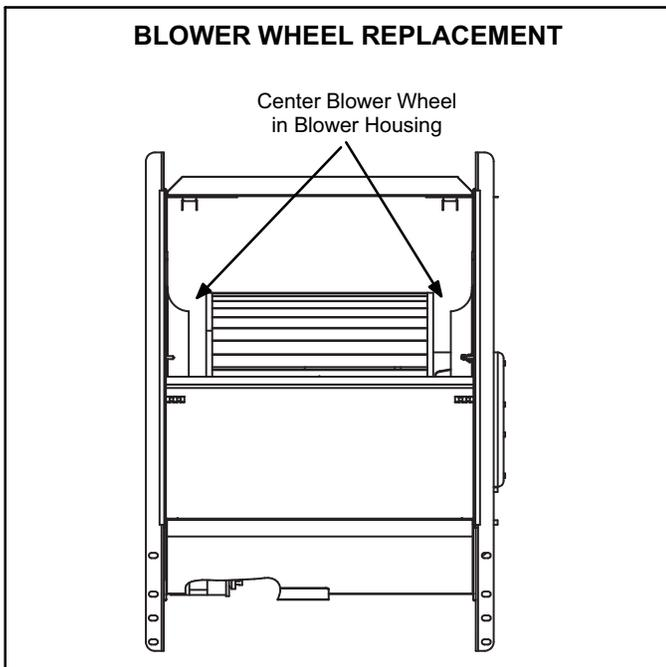
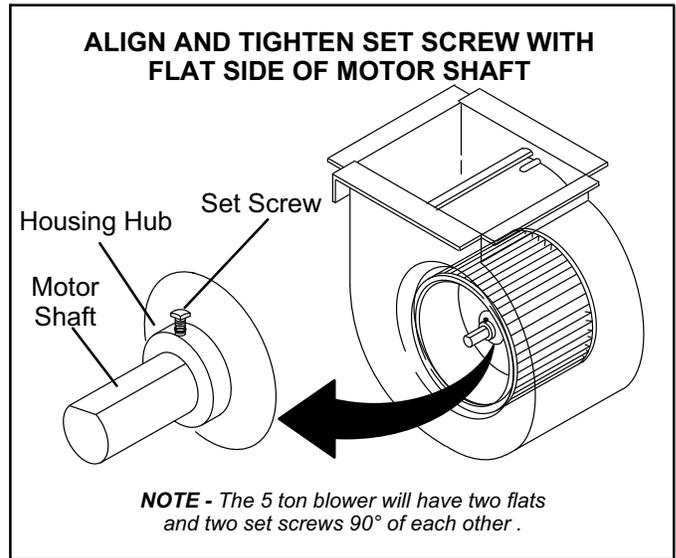

FIGURE 15
FIGURE 16
All ML180UH(X) units use direct drive blower motors. All motors are 120V permanent split capacitor motors to ensure maximum efficiency. Ratings for capacitors will be on motor nameplate. If replacing the indoor blower motor or blower wheel is necessary, placement is critical. The blower wheel must be centered in the blower housing as shown in figure 15. When replacing the indoor blower motor the set screw must be aligned and tightened with the motor shaft as shown in figure 16.